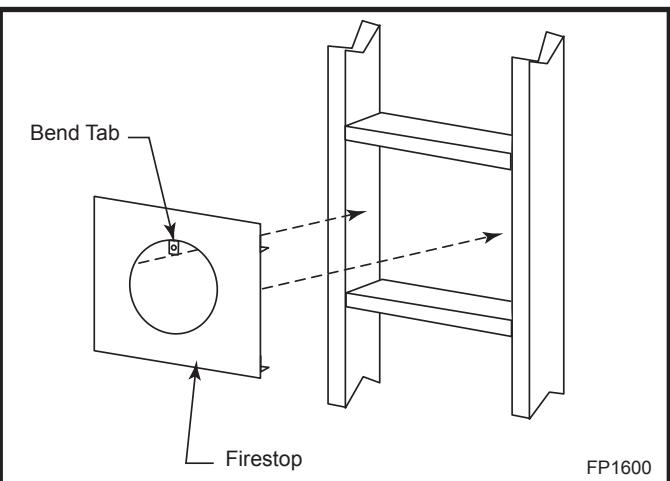

Fig. 18 Install firestop.
Install interior firestop as shown in Figure 18.
Bend tab on outer casing up and insert collar onto fireplace collars. (Fig. 18)
4. Bend the tab on the back of the fireplace up. (Fig. 18)